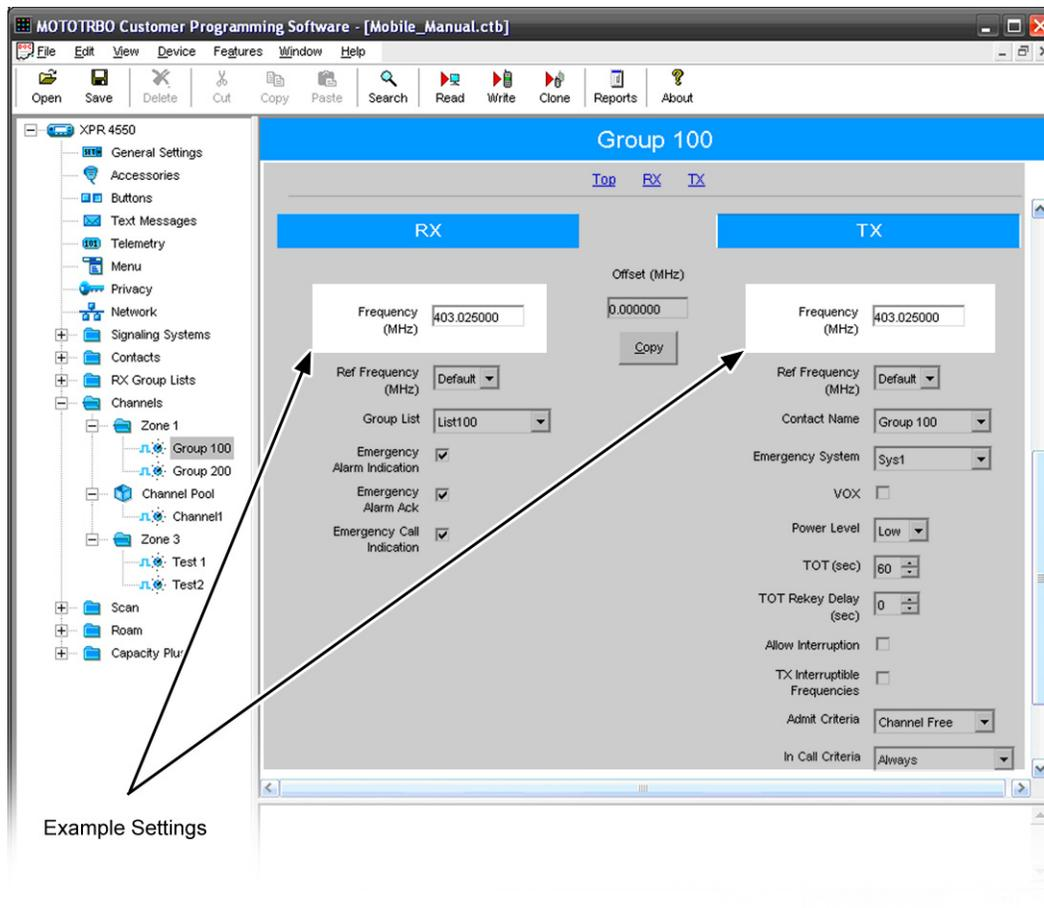

FIGURE 12. Channels Window, RX and TX—MOTOTRBO
The **Channels** window, shown in Figure 12, is used to configure the acknowledgement channel for digital emergency calls. At least one (1) acknowledgement channel must be configured in this window to send digital emergency calls.